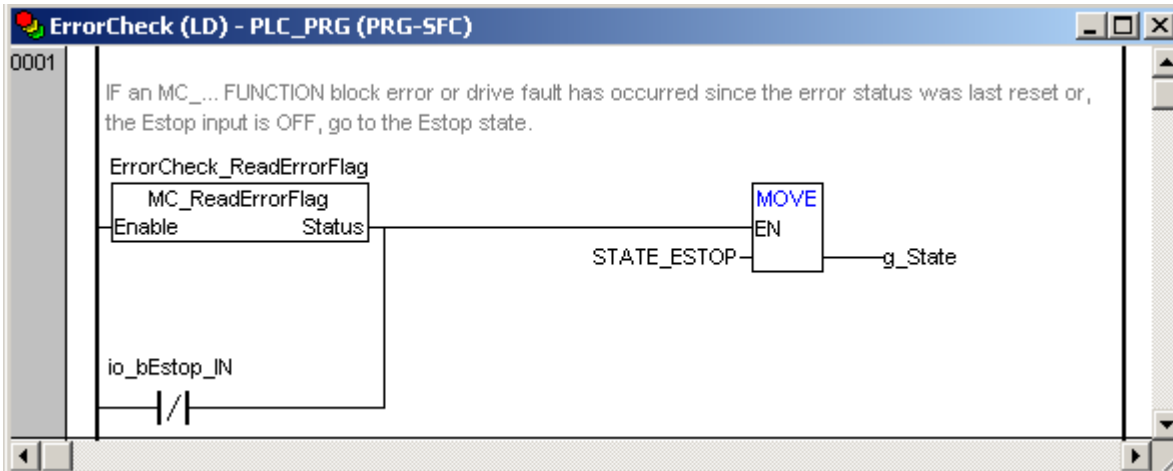

Figure 38, ErrorCheck Action
- Enter the code as shown in Figure 38.
Anytime an MC... function block generates an error or a drive fault occurs, the SMLC’s Error Flag is set true. In Figure 38, the Error Flag is read and if it is true, the state is set to Estop. Likewise, if the Estop input opens, the state is also set to Estop.